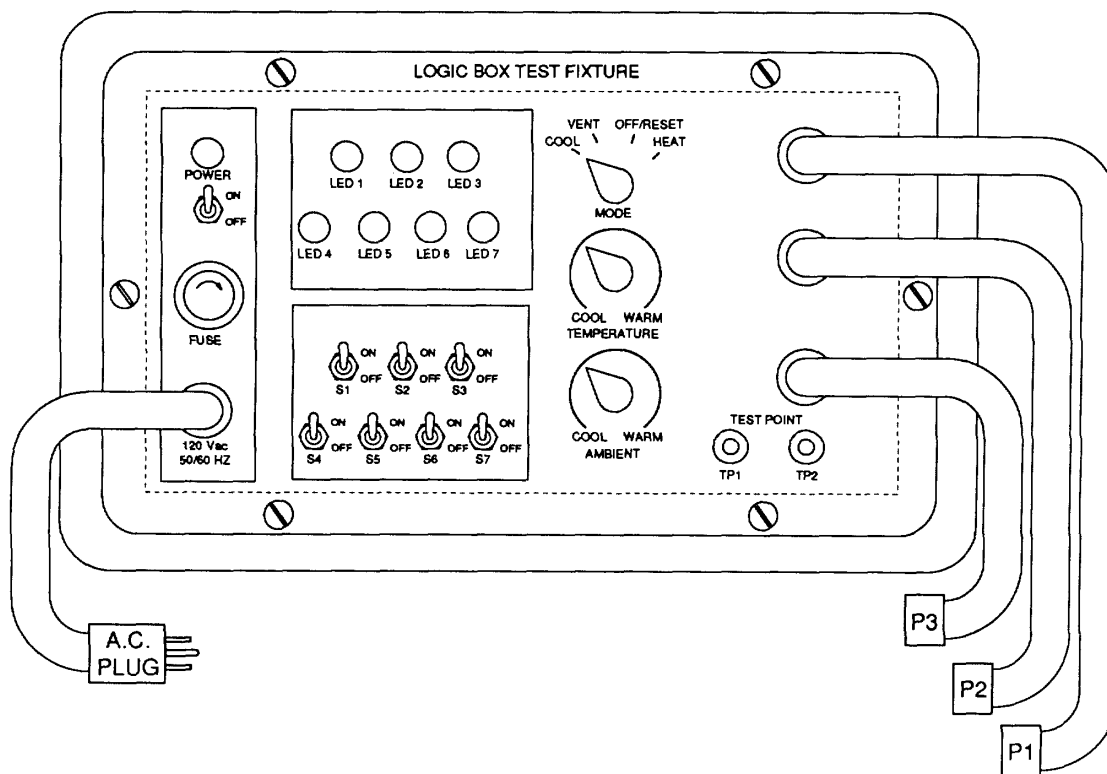

Figure 5-1. Logic Box Test Fixture.
- (1) If a complete test fixture is being used, connect it to a standard convenience outlet and be sure the POWER switch is in the OFF position. (See figure 5-1.) If a test fixture was fabricated per schematic (appendix F, figure F-51), connect the power supply to appropriate power source and adjust output to 12 ± 0.5 volts dc. Be sure it is turned off and connected to the test fixture where indicated.
- (2) Connect a multimeter set to measure dc voltage to the test fixture TEST POINT (positive lead to TP1 and negative lead to TP2). Connect P1, P2, and P3 to J1, J2, and J3 respectively on the logic box assembly being tested.